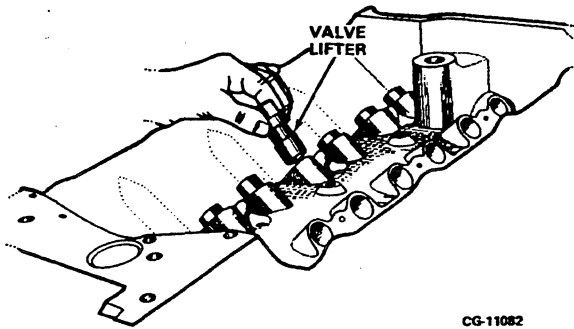

Figure 4.5. Valve Lifter Removal
3. Remove hydraulic valve lifters (1, Figure 4.5).